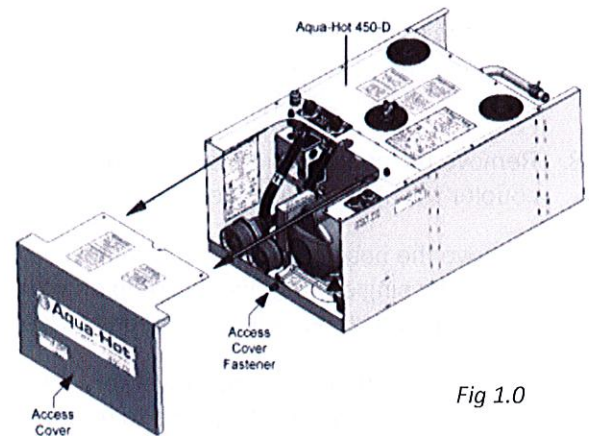

Fig 1.0
3. Remove the Aqua-Hot access cover by removing three retaining bolts (see fig 1.0).